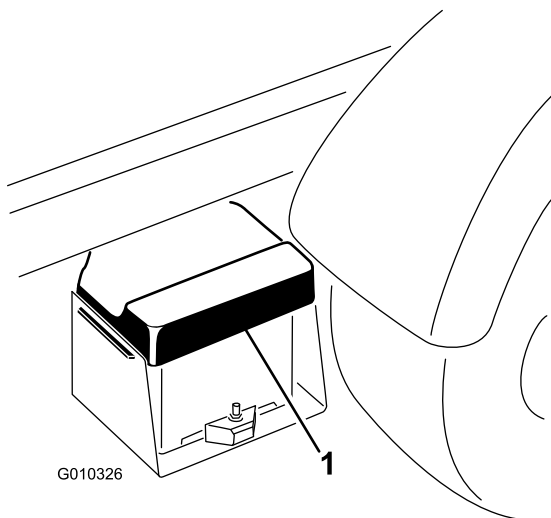

Figure 4
- A. Squeeze the battery cover to release the tabs from battery base (Figure 4).
- B. Remove the battery cover from the battery base (Figure 4).